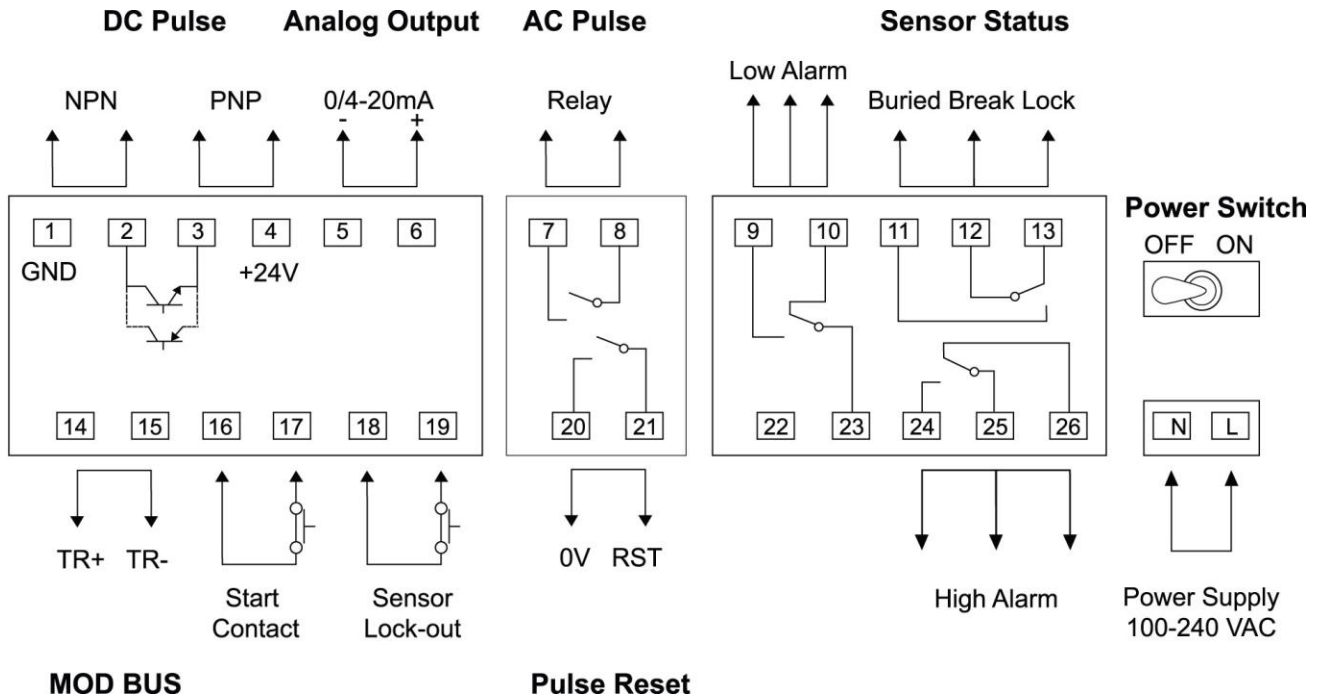

Figure 10: Electrical connections
Refer to Figure 10 for all wiring connections.
Power input to the Model WC is connected to terminals labeled N and L. Refer to Figure 10. If one of your AC supply conductors is grounded, it should be connected to the ground screw located inside or outside the Model WC enclosure as indicated by the ground symbol shown on page 20. The ungrounded supply conductor should be connected to the L terminal. If neither of your AC supply conductors is grounded, then one of them is connected to the N terminal and the other to the L terminal.
Model WC sensors must be connected in a “daisy-chain, multi-drop configuration. The order of connection is not important, however, the MODBUS communication network wiring interconnection must have only two ends with all units serial inline, without electrical “T” connections. All MODBUS wiring joints should be at the Model WC wiring terminals. Refer to Figure 10. Use terminals 14 (TR+) and 15 (TR-) for MODBUS wiring connections. Shield connection is made to terminal 1.
The analog output signal can be configured to either 0-20mA or 4-20mA. Refer to the Setup section for more information. The analog output signal connects using terminals 5 (-) and 6 (+). Refer to Figure 10.
The Model WC provides a DC pulse output using a solidstate transistor. The output connections can be for either a NPN or PNP configuration. NPN connections use terminals 1 (GND) and 2 as shown in Figure 10. The PNP connection uses terminals 3 and 4 (+24V).
The Model WC provides an AC pulse output using an electromechanical relay. The output connections for the AC pulse output use terminals 7 and 8 as shown in Figure 10.
Manually initiation of a measuring cycle can be accomplished remotely by a contact closure. This dry contact closure should be connected to the Model WC sensor using terminals 16 and 17 as shown in Figure 10.
Normal measurement cycles will return when the remote dry contact closure returns to the normal open contact state. The Lockout input uses terminals 18 and 19 as shown in Figure 10.
The Model WC is provided with two material level alarms and a relay output for each. One is for High material level condition and the other is Low level. It is strongly recommended that these relay outputs not be used as the sole level control for vessel filling especially. Independent level control sensors should always be used. The material level alarm relays are SPDT providing both a normally-open and a normally-closed contact for each. The High level alarm relay connects using terminals 24 (NO), 25 (NC) and 26 (C) as shown in the diagram in Figure 10. The Low level alarm relay connects using terminals 9 (NO), 10 (NC) and 23 (C) as shown in the diagram in Figure 10. The material level alarms activate when the measuring cycle is complete and the sensing weight is returned to its starting position, should a material level alarm condition exist.